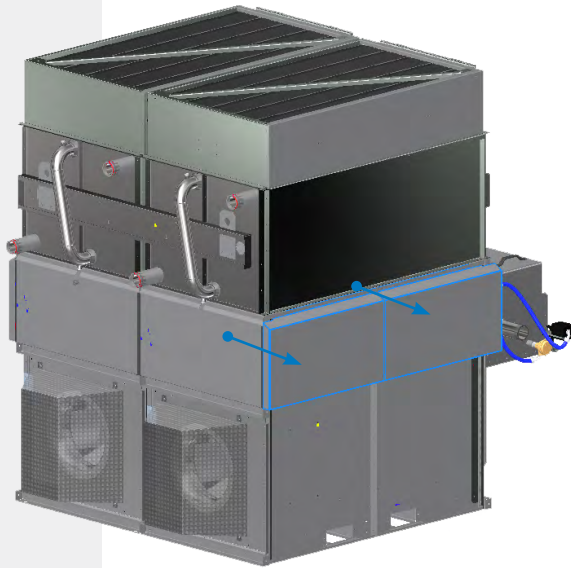

Figure 12. Location of Component Wiring
2. Remove the side cover panel located on the opposite side of control panel. Find the component wire (drain valve, conductivity sensor or make-up valve) stored under cover panel. See **Figure 12** on **page 14**.
2. Find the conductivity sensor and the drain valve component wires on the side of unit opposite from the control panel. Pull the wire around the corner to back (opposite the basin side) and secure to the mounts with zip ties (provided by BAC). Pull the wire through the first notch from top and secure the wire to the hole with zip ties. See **Figure 12** and **15**.